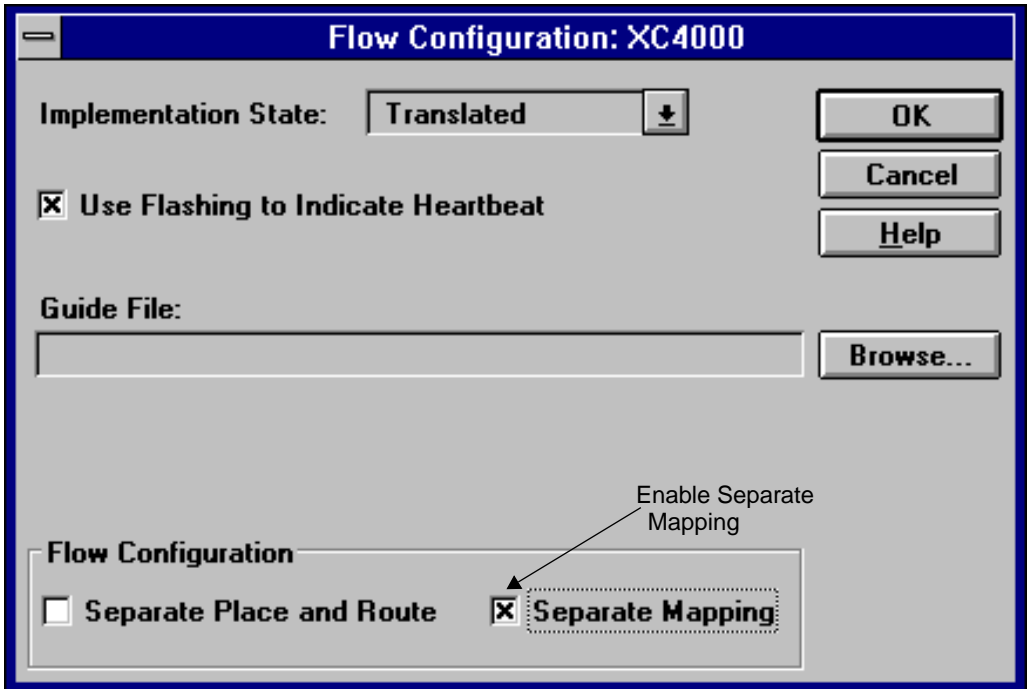

Figure 3-24 Flow Configuration Dialog Box
3. If this is an XC4000 design, select Advanced from the Flow Engine's Setup menu and enable the Separate Mapping check box (see Figure 3-24).